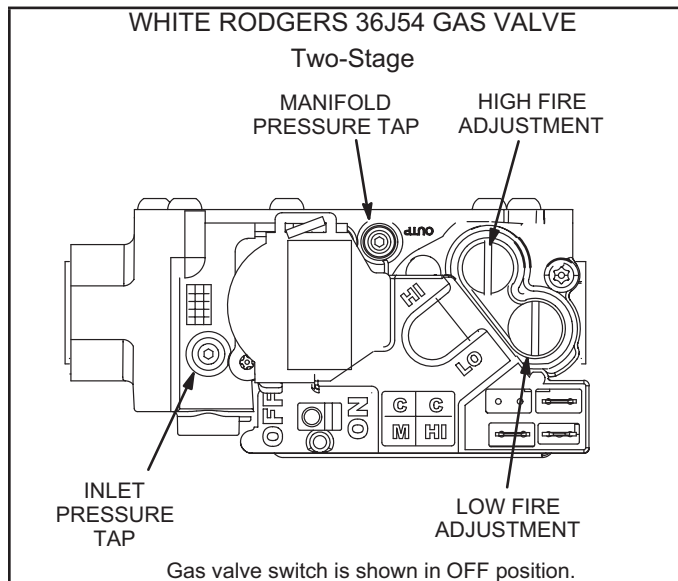

FIGURE 28
### Gas Valve Operation (FIGURE 28)
- 5 - Move gas valve switch to **OFF**. See FIGURE 28.
- 6 - Wait five (5) minutes to clear out any gas. If you then smell gas, **STOP!** Immediately call your gas supplier from a neighbor's phone. Follow the gas supplier's instructions. If you do not smell gas, go to the next step.
- 7 - Move gas valve switch to **ON**. See FIGURE 28.